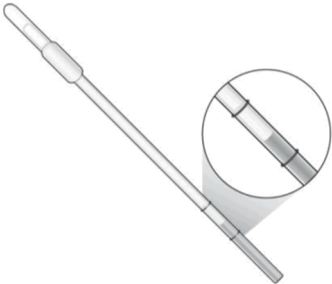

Figure 14. Representation of an Appropriate Sample Buffer (SB) Level using the Disposable Transfer Tool (DTT).
5. Unseal the left side of the pouch (when facing label) containing the PIE, removing it from the pouch. Once unsealed, the PIE must be used within one (1) hour.
6. Remove the DTT from the right side of the pouch and use it to aspirate the sample buffer (SB) by squeezing the entire bulb. The liquid level into the DTT must be anywhere between the two (2) marks (Figure 14). If the liquid level is not between the two (2) marks, discharge the SB completely into the SBT and repeat this step.